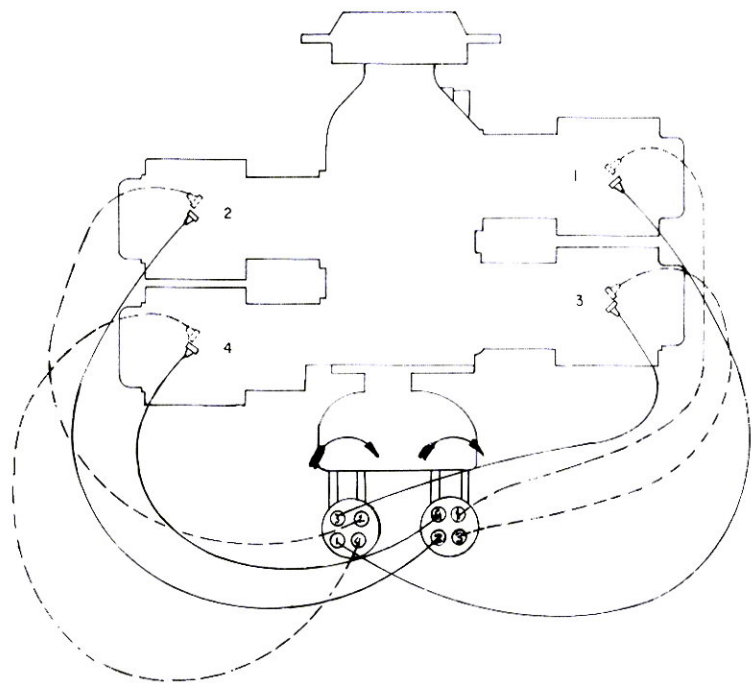

Figure 5-1. Ignition Wiring Diagram - Dual Magneto
(12) At the No. 1 firing position of the engine, the red light should go off indicating left main breaker opening. The right main breaker, monitored by the green light, must open within 2 engine degrees of the No. 1 firing position.
(13) Repeat steps (9) thru (11) until the condition described in paragraph (12) is obtained.
(14) Complete tightening of the magneto securing clamps by torquing to 150 inch pounds.
(15) Recheck timing once more and if satisfactory disconnect timing light. Remove adapter leads.
(16) Reinstall plugs in timing inspection holes and torque 12 - 15 in. lbs.
(17) Install the harness leads as shown in figure 5-1 to spark plug and connect switch lead to proper terminal.